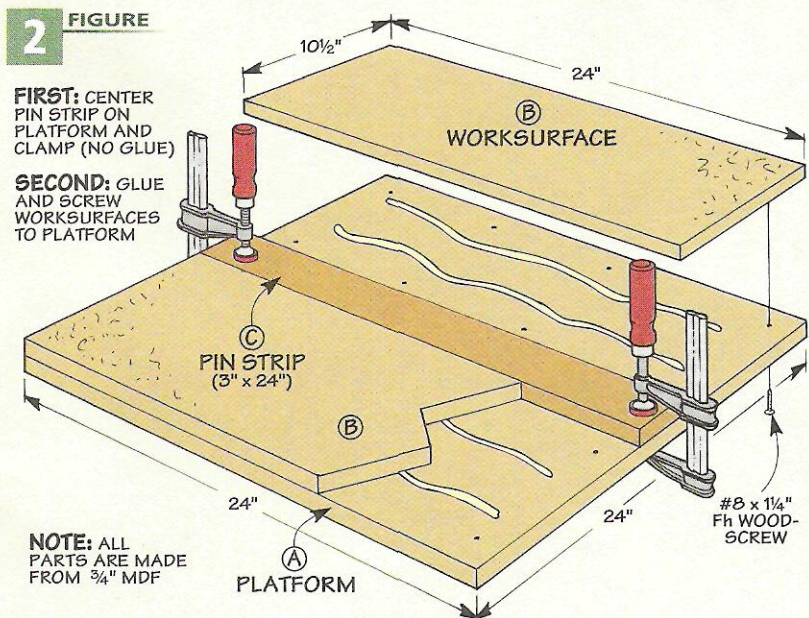

FIGURE 2
Base & Worksurfaces - Making the *platform (A)* and *worksurfaces (B)* isn't difficult. It's just a matter of cutting the pieces to the dimensions shown in Figure 2. The hardest part is gluing them together. That's because they want to slide out of position as you glue them in place.
Pin Strip - To keep things in position, I used the pin strip as a stop to align the worksurfaces. After cutting the *pin strip (C)* to size, I centered it on the platform so it was flush at the front and back and then clamped the strip in place (Figure 2).